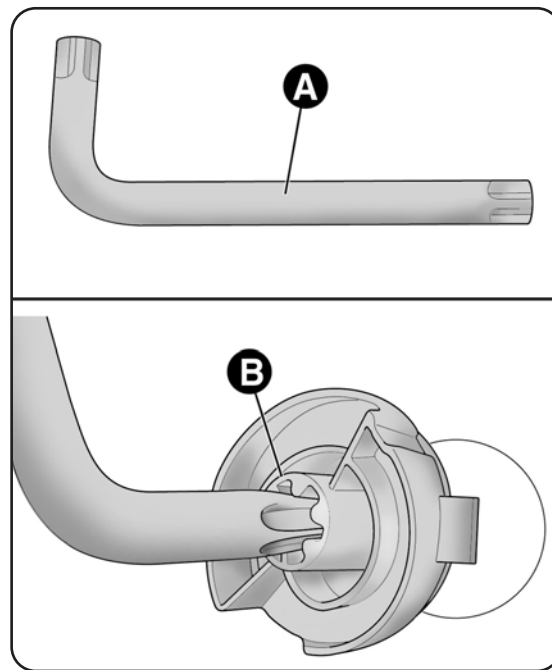

fig. 25
- take wrench A-fig. 25 and insert it into housing B;